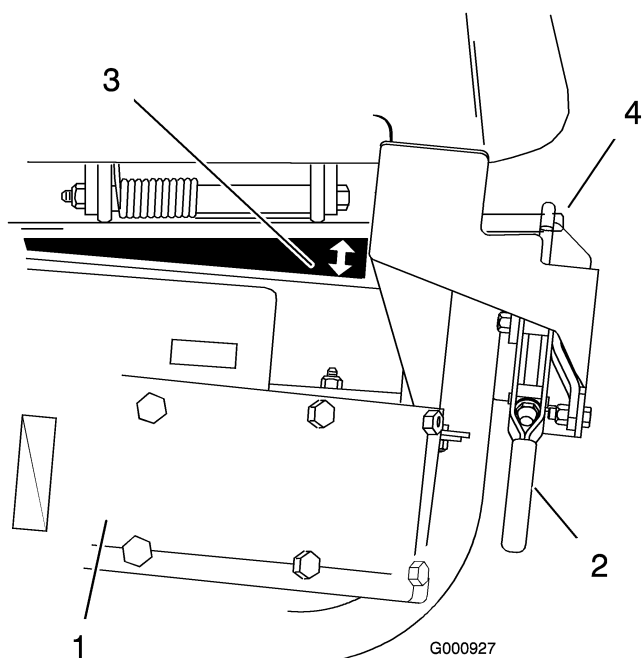

Figure 8
3. There must not be a gap between the mounting plate and the blower assembly (Figure 8). If there is a gap, proceed to item 5 of this procedure and shorten the latch.